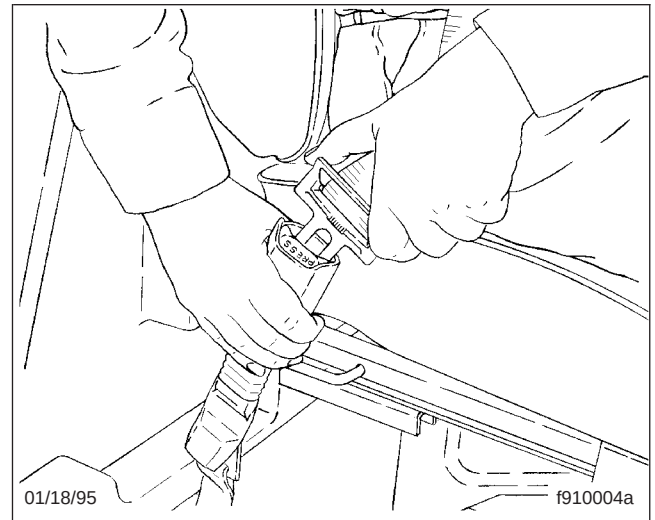

Fig. 5.18, Fastening the Three-Point Belt
2. Fasten the three-point seat belt by pushing the latch into the buckle. Listen for an audible click. See **Fig. 5.18**.